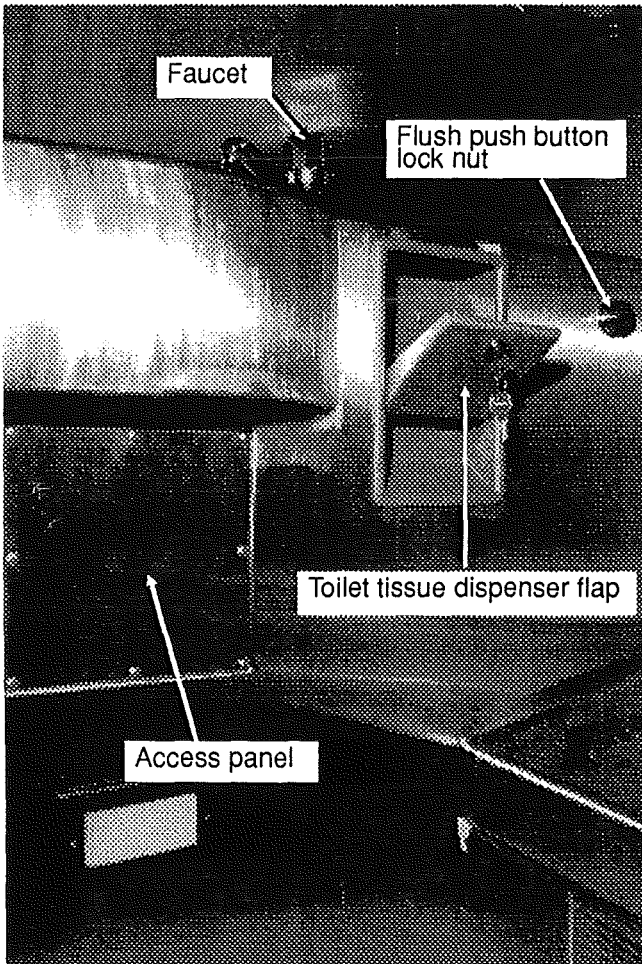

FIG. 21
1. Unscrew and remove the flush push button lock nut (see fig. 21).
4. Unscrew the three (3) Phillips head screws retaining the toilet tissue dispenser assembly, then remove it from its location.
**NOTE: Washbasin and faucet plumbing is accessible by removing the access panel located under the wash basin (refer to fig. 21).**